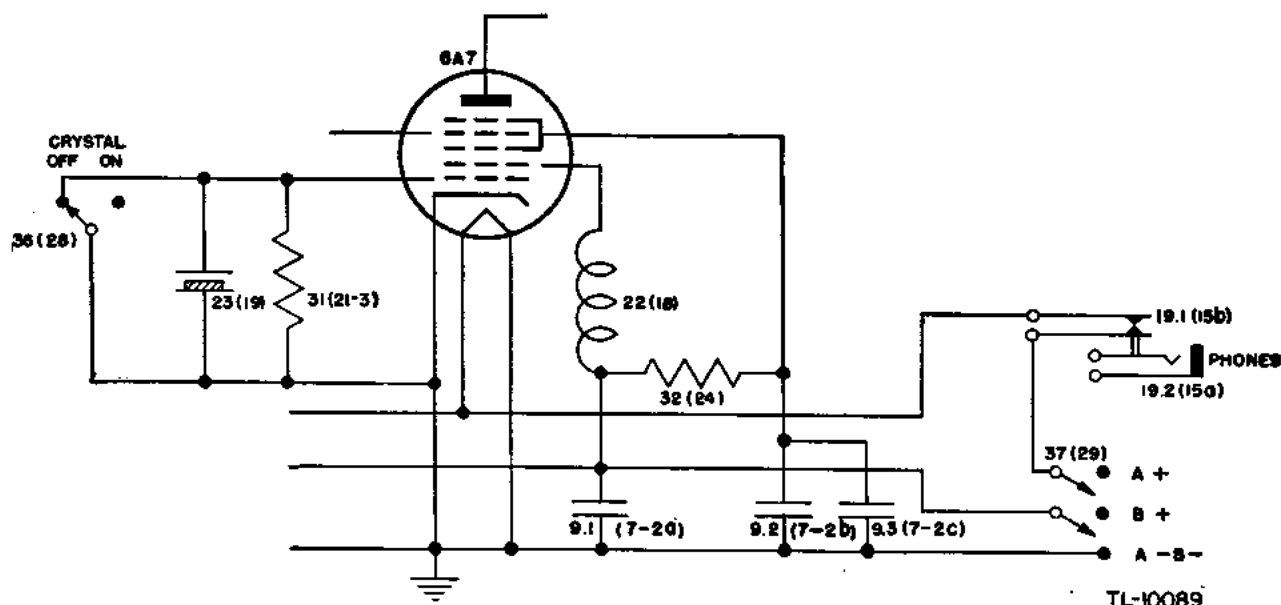

Figure 28. Frequency Meter BC-221-(1), functional diagram, crystal-oscillator circuit.
(fig. 28), which operates at a fixed frequency of 1,000 kc when CRYSTAL switch 36 (28) is placed in the ON position. The crystal circuit is removed from operation when CRYSTAL switch 36 (28) is turned to the OFF position thus placing a short circuit around the crystal. The crystal circuit is designed to generate considerable harmonic energy so that it can be used to calibrate the variable frequency oscillator at several points over its entire range. The necessary plate circuit impedance is built up across an untuned inductance 22 (18) housed in a bakelite case of rugged construction and thoroughly sealed against moisture. Resistor 31 (21-3) shunted across crystal 23 (19) serves as the crystal oscillator grid leak. Resistor 32 (24) supplies
of the type 6A7 tube is grounded. (See fig. 28.) By reference to figures 29 and 30, it can be seen that antenna plug 39 (31) is also coupled directly to the variable frequency oscillator output through capacitor 7 (5-2) alone. Thus, antenna plug 39 (31) serves the dual purpose of a detector input terminal for the measurement of frequencies of external origin and of a variable frequency oscillator output terminal for use in calibrating receivers. When the unit is employed for the latter purpose, a minimum of 2,000 microvolts of radio frequency energy will be available between the antenna terminal and ground (the chassis) at any frequency within the calibrated range.